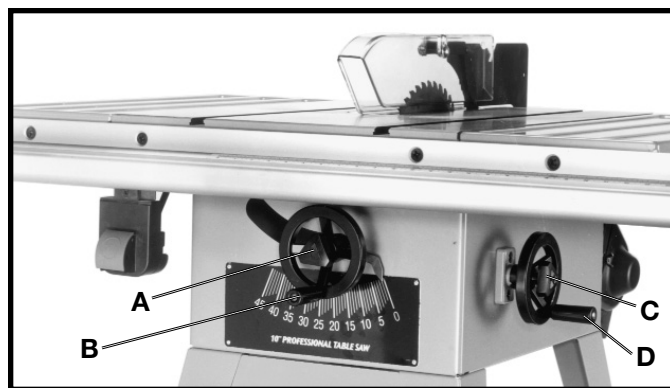

Fig. 44
To raise the saw blade, loosen lock knob (A) Fig. 44, and turn the blade raising handwheel (B) clockwise. When the blade is at the desired height, tighten lock knob (A).
To lower the blade, loosen lock knob (A) Fig. 44, and turn the handwheel (B) counterclockwise. **NOTE:** One full turn of the handwheel will change blade height approximately 1/4".
To tilt the saw blade for bevel cutting, loosen lock knob (C) Fig. 44, and turn the tilting handwheel (D). When the desired blade angle is obtained, tighten lock knob (C).